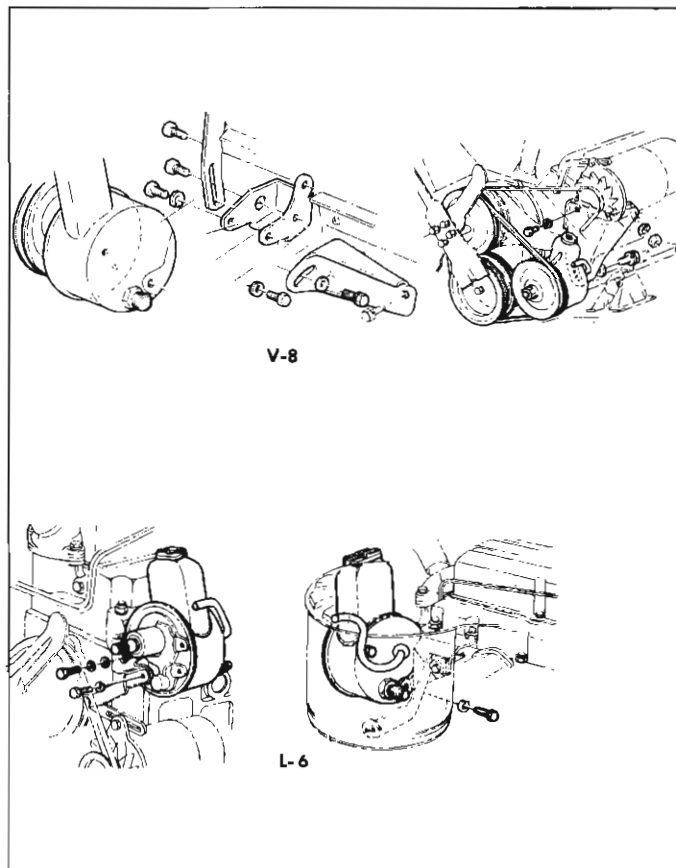

Fig. 60—Pump Mounting
1. Loosen power steering bracket to power steering pump attaching bolts (fig. 60).
Removal From Vehicle (Fig. 60)